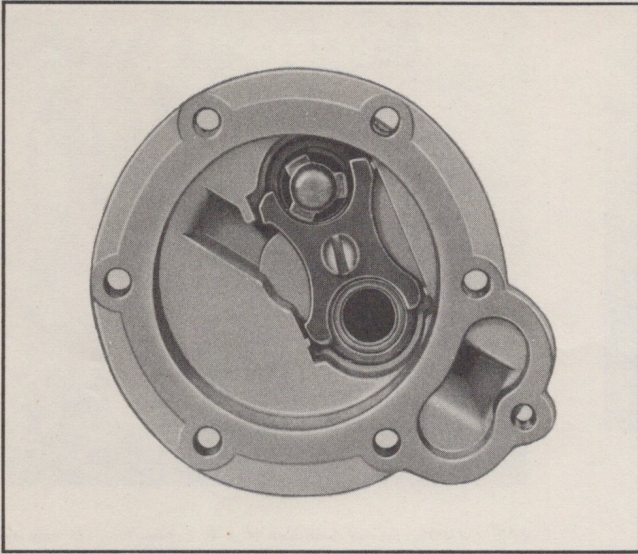

Fig. 5 Fuel Cover Valves Installed
1. Place valve and cage gaskets in recesses in fuel cover. Place valves and cages on top of gaskets. Inlet valve must have three-legged spider facing out of cover and the outlet valve must have three-legged spider facing into cover as shown in Fig. 5. Secure valve assemblies with retainer and screw.